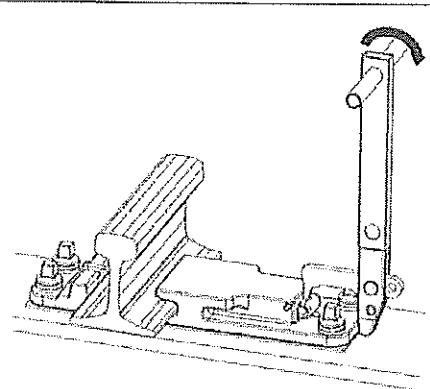

Fig. 51-Removal of spring
- Engage hook of extraction tool into the recess of the IFAST spring. Prop the lower end of the tool on the plate and drive the upper end until the IFAST spring could be removed from the tunnel in the slide chair, Fig. 51. If necessary remove the coach screws.
17. Engage hook of extraction tool into the recess of the IFAST spring. Prop the lower end of the tool on the plate and drive the upper end until the IFAST spring could be removed from the tunnel in the slide chair, Fig. 51. If necessary remove the coach screws